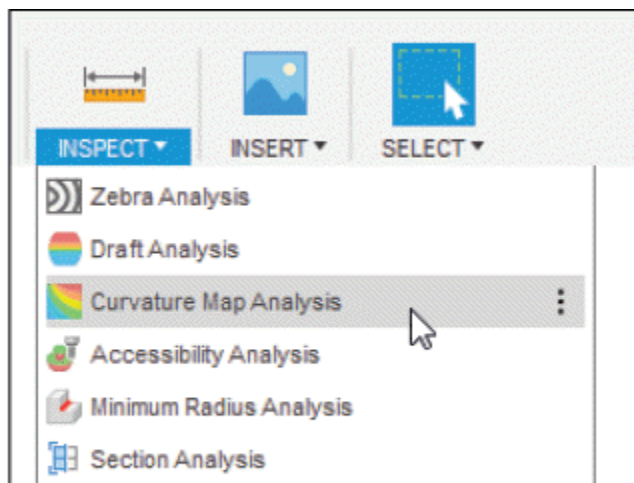
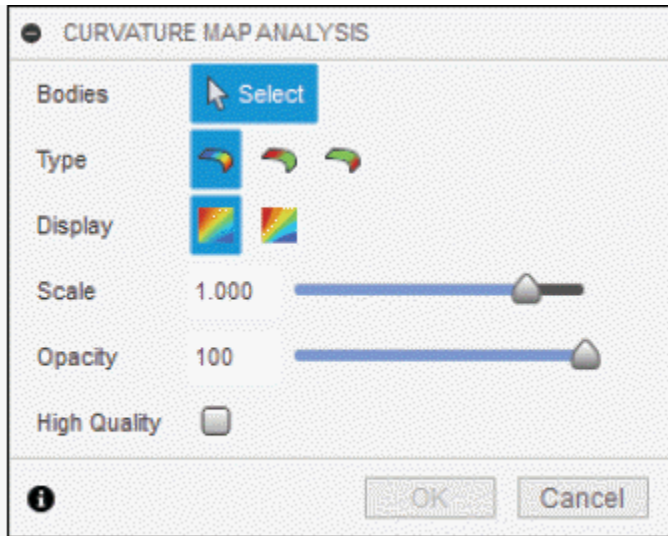

Figure-51. Curvature Map Analysis tool
Figure-52. CURVATURE MAP ANALYSIS dialog box
- Click on the **Curvature Map Analysis** tool of **INSPECT** drop-down from **Toolbar**; refer to Figure-51. The **CURVATURE MAP ANALYSIS** dialog box will be displayed; refer to Figure-52.